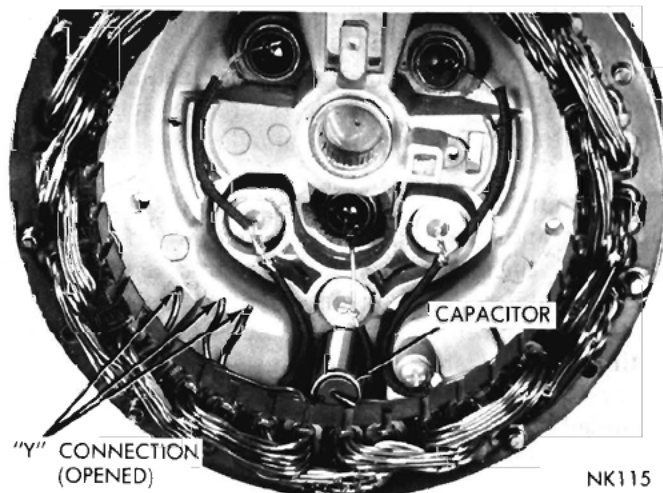

Fig. 20—Separating the Three Stator Leads
(a) Separate the three (3) stator leads at the "Y" connection (Fig. 20).